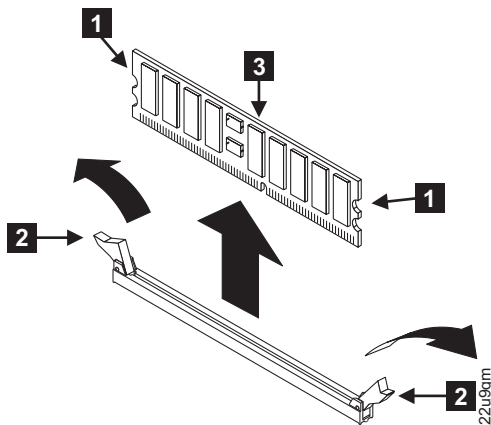

Figure 113. Removing the memory modules
6. Open the clips **2** by pressing them outward, as shown in Figure 113 on page 136. This action pulls the memory module **3** out of the connector.